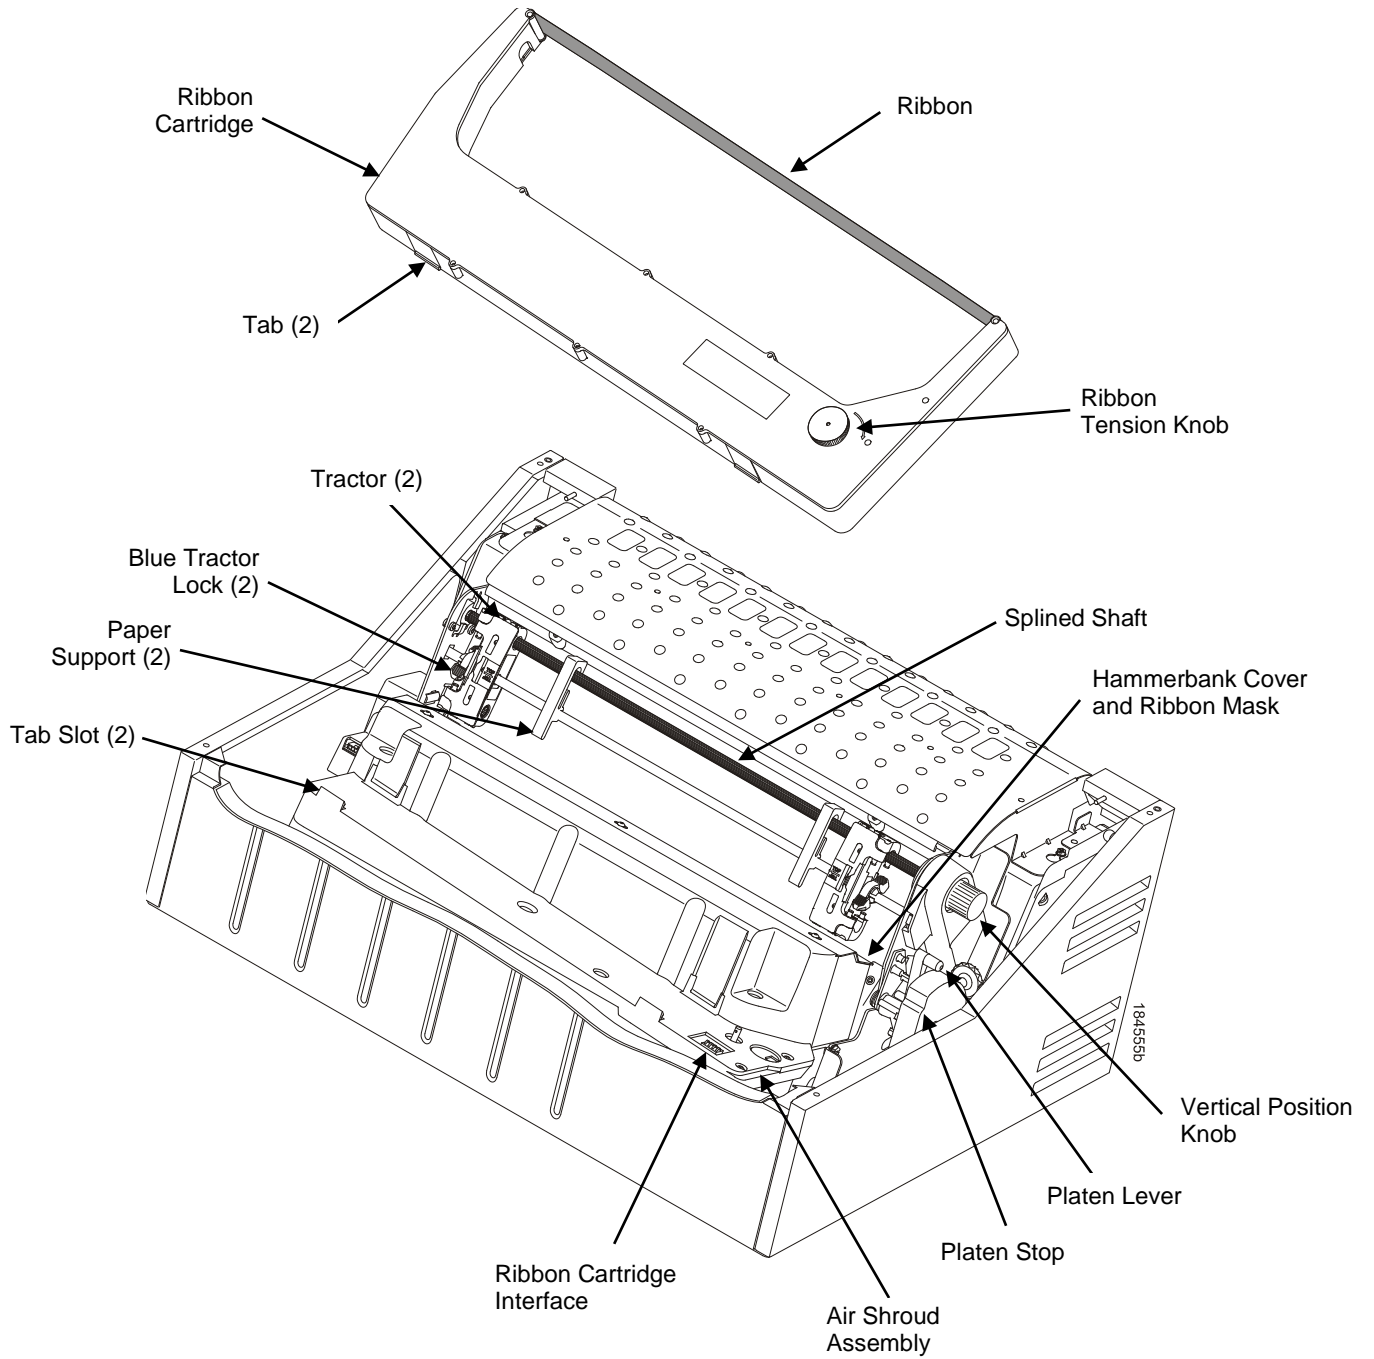

Figure 4 Printer Component Locations
1. Raise the printer cover. Raise the platen lever as far as it will go. (See Figure 4 on page 17 for the location of the lever.)
6. Pull the new paper above and behind the ribbon mask, but in front of the existing paper. See Figure 4 on page 17 for the ribbon mask location. If necessary, gently press the existing paper back.